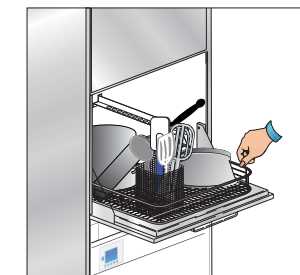

Fig. 2
4. Insert the full rack of objects for washing, making sure the objects are correctly placed in the rack (Fig.2).